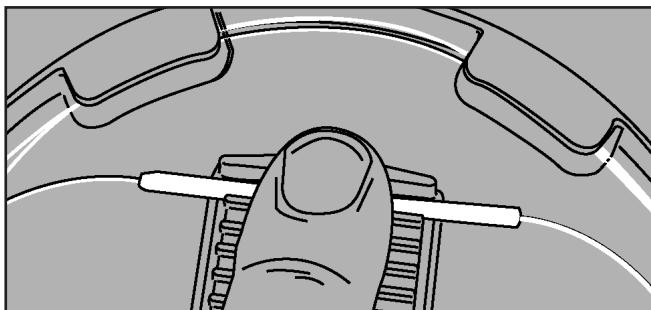

Figure 17
- Once cool, reposition the splice protector back into the splice block. Carefully store and route the fiber around the splice tray with minimum bending. (Figure 17)